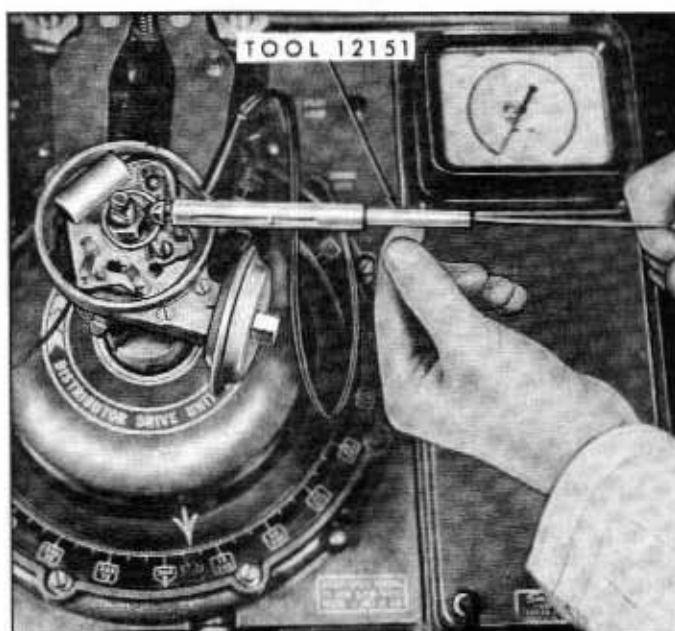

Fig. 10A-54—Shaft and Bushing Wear Test—(60C-7711)
7. Pull with hook end of Spring Tension Tester (Tool 12151) until scale reads 16 ounces. Keep Spring Tension Tester at right angle to distributor shaft. See figure 10A-54. Observe Dwell Meter while tension is being applied to distributor shaft. If dwell angle changes more than 3 degrees excessive wear is indicated.